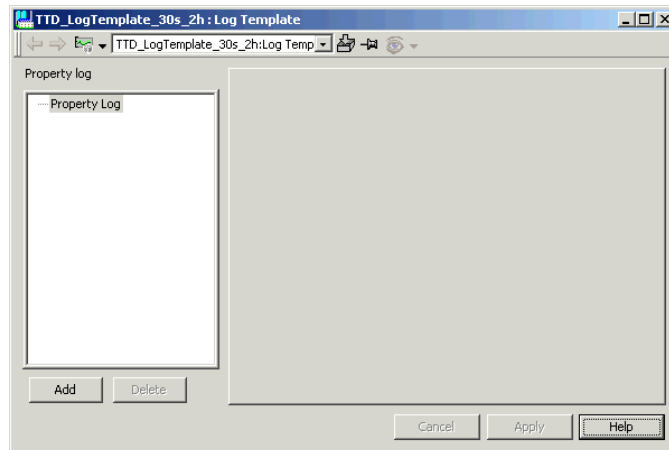
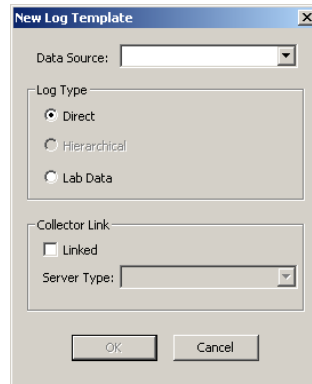

Figure 45. Log Template Aspect
Figure 46. New Log Template
4. Start creating the new TTD log. Select **Property Log** and click **Add**. See Figure 45. The New Log Template dialog is displayed, see Figure 46.